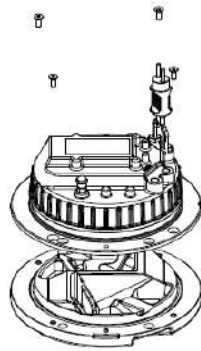

Figure 5-18
- Replace the body gasket: Separate the inner cover and upper cover (Figure 5-18)